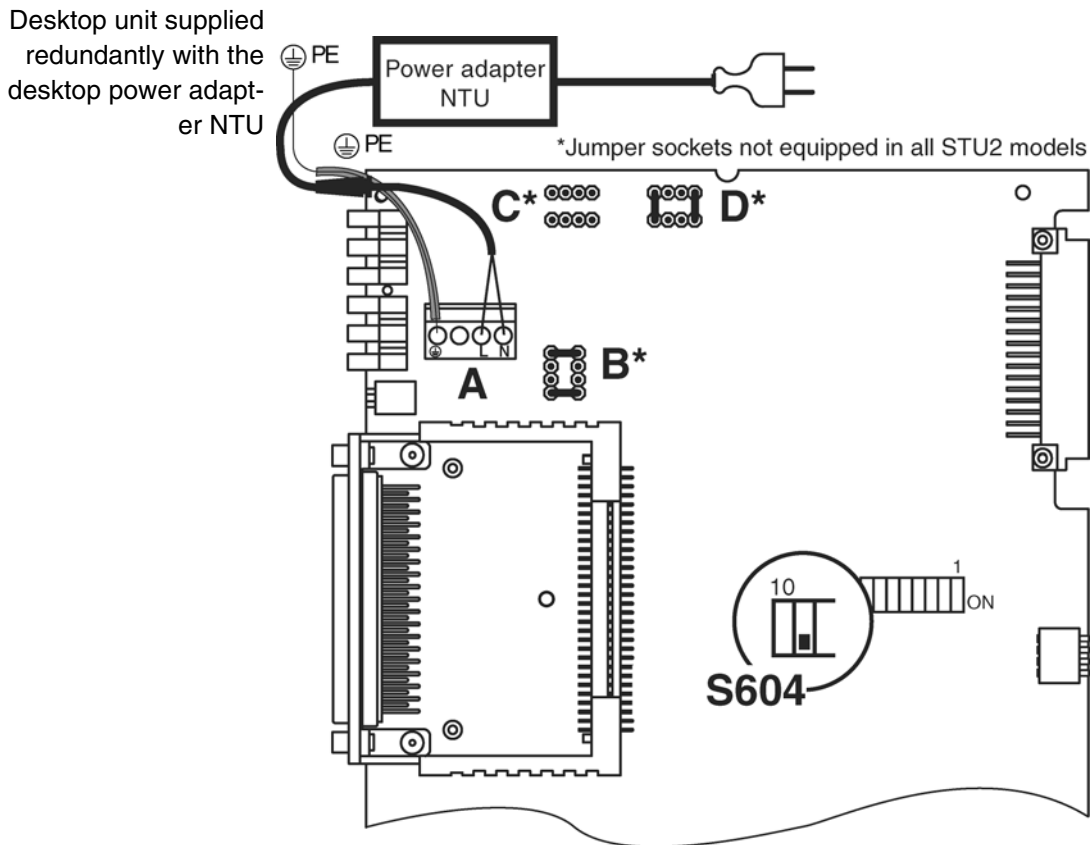

Fig. 2.82 Jumper settings: Desktop unit supplied redundantly with the desktop power adapter NTU
6. Set the jumpers according to Chapter 2.9.4, Fig. 2.82 to remote supply (additional jumpers are included with desktop unit NTU)